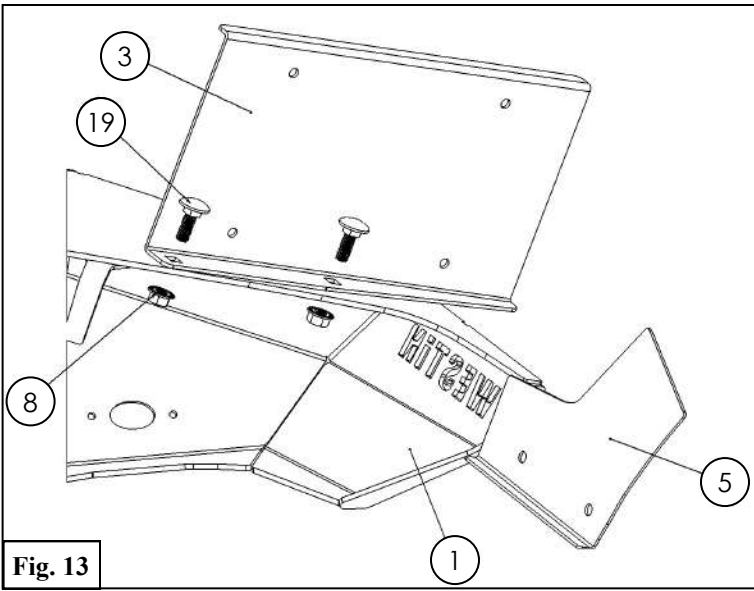

Fig. 13
14. Next, install the License Plate Relocation Bracket (3) using the supplied M8 Hardware. **See Figure 13.**
- Note: The Lighted Screws (6) will attach in the top two holes of the License Plate Relocator (3). Use the factory license plate light harness to wire the Lighted Screws (6). Do so by using the supplied crimp connectors to splice the Lighted screw (6) wires into the factory harness. Make sure to seal them using a heat gun afterwards.*